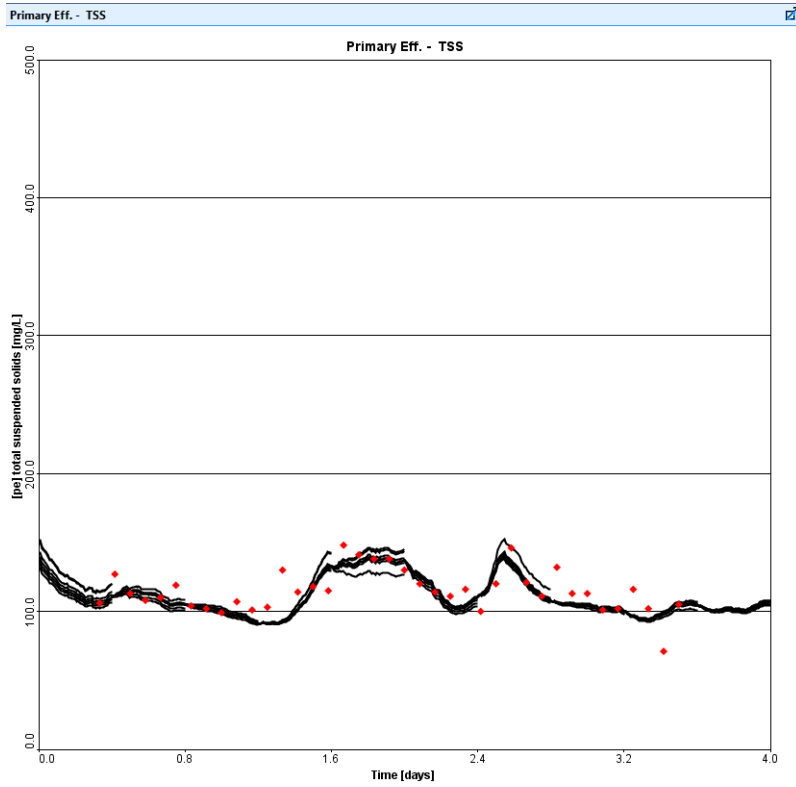
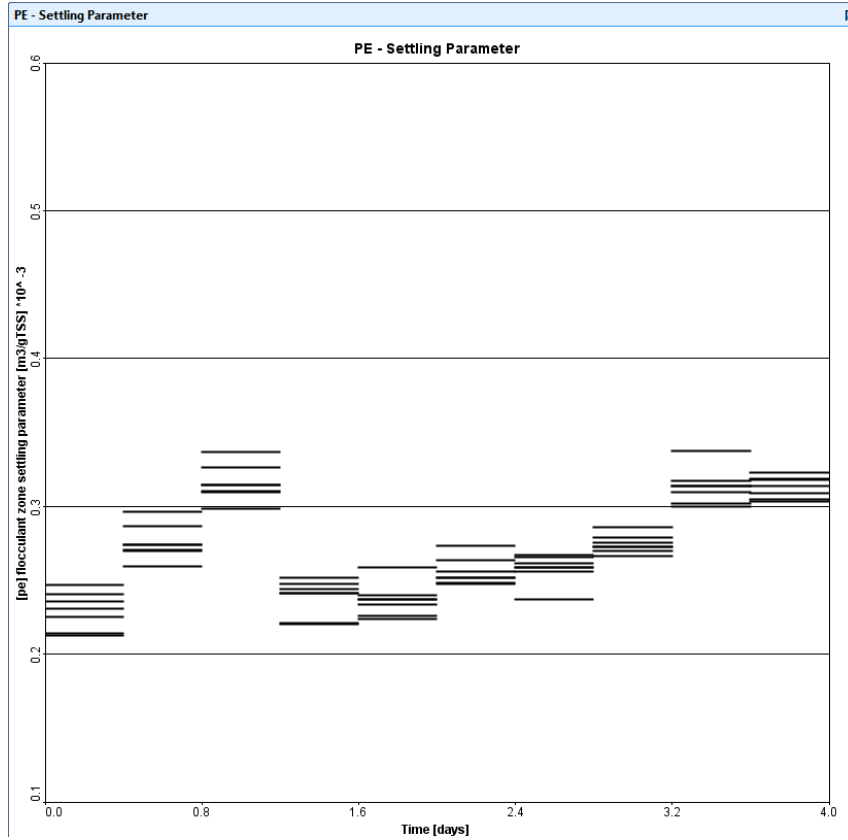

Figure 12-7 – DPE Results
Figure 12-8 – Flocculent Parameter
17. Run the simulation. The results are shown in **Figure 12-7** and **Figure 12-8**.